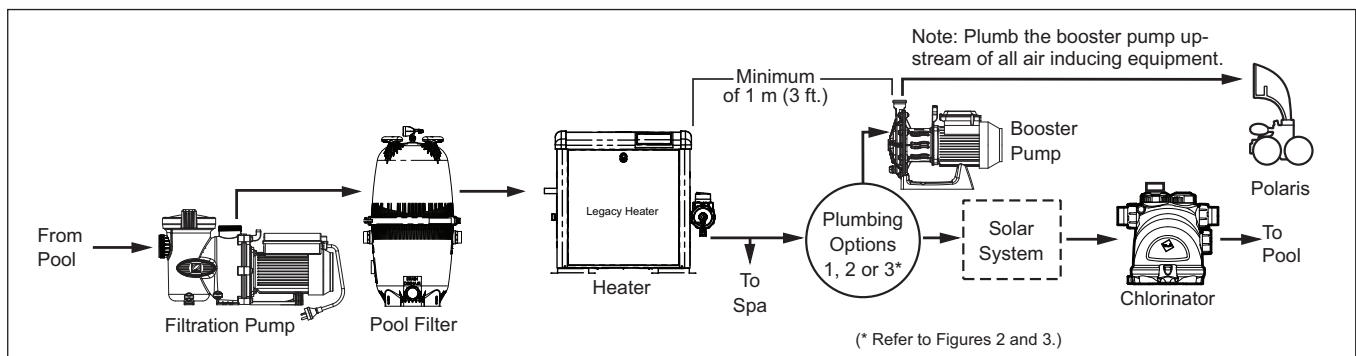

Figure 1. Typical Equipment Layout
Number of Suction Outlets Per Pump - Provide at least two (2) hydraulically-balanced main drains, with covers, as suction outlets for each circulating pump suction line. The centers of the main drains (suction outlets) on any one (1) suction line must be at least one (1) meter apart, center to center. See Figure 1 on page 7.
The system **must** be built to include at least two (2) suction outlets (drains) connected to the pump whenever the pump is running. However, if two (2) main drains run into a single suction line, the single suction line may be equipped with a valve that will shut off both main drains from the pump. The system shall be constructed such that it shall not allow for separate or independent shutoff or isolation of each drain. See Figure 1 on page 7.
To ensure proper function of the pump and the cleaner, refer to Figure 1 and adhere to the following guidelines for specific equipment.
2. If a heater is installed on the system, tap the inlet for the booster pump into the return line **downstream** and at least one (1) meter from the heater discharge. See Figure 1. **Do not tap the booster pump inlet into the 1 meter section of heat sink pipe that comes directly out of the heater.**